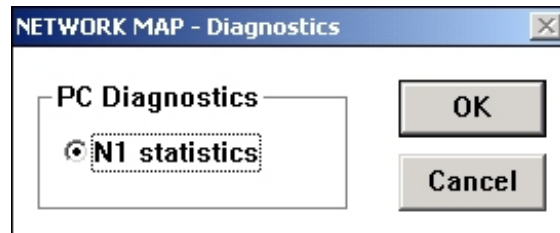

Figure 17-7: PC Diagnostics Dialog Box
2. On the Action menu, select Diagnostic. The following PC Diagnostics dialog box appears (Figure 17-7).